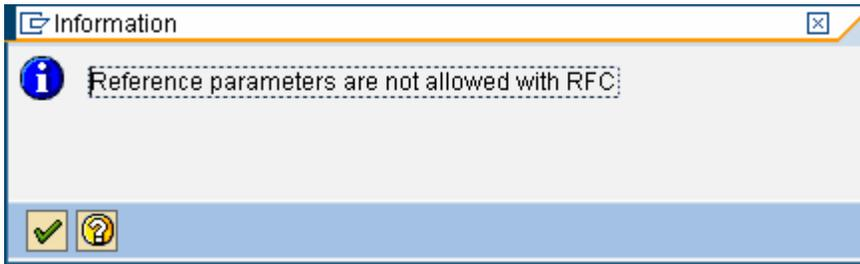

figure : 4
*Note:* While declaring an import parameter name, you have to make sure that you have checked the “Pass Value” otherwise you will get an error shown in the figure 4.